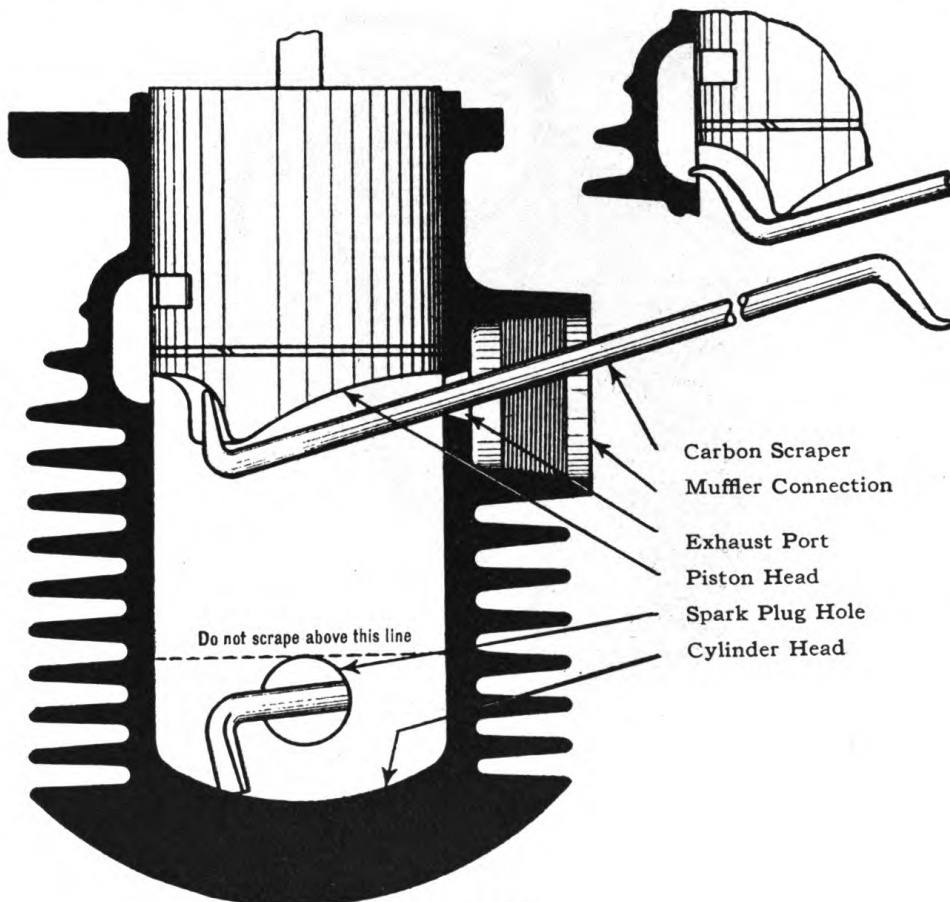

FIGURE 3.
(5) *Carbon removal.*—It is highly important that the cylinder ports (fig. 3) be kept free from carbon since an excess of carbon will reduce the engine power to a marked degree. To remove the carbon proceed as follows:
(a) Remove the muffler (38, fig. 6) and scrape the exhaust ports and head of piston by working through the exhaust ports with carbon scraper (fig. 3). Also scrape cylinder head by working through the